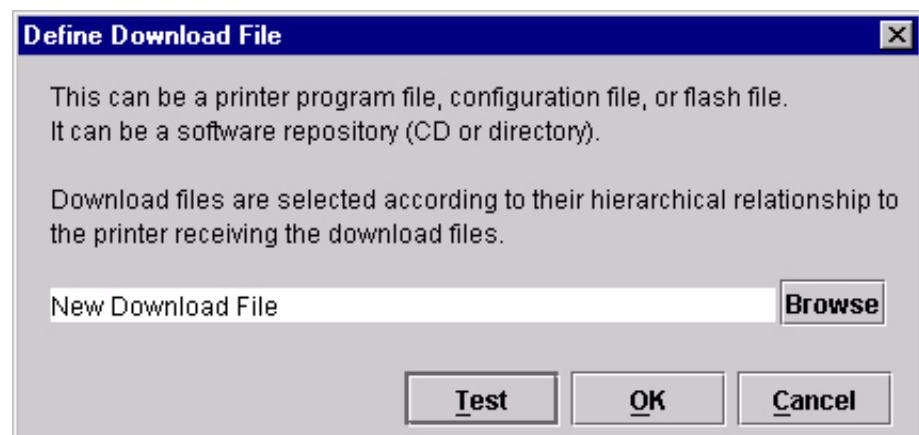

Figure 68. Define Download File
1. Double-click **D** **New Download File**. The Define Download File dialog box opens. See Figure 68.